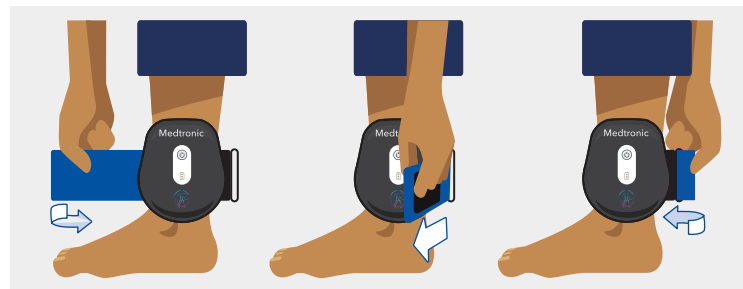

Figure 46. Securing the ankle band
- Secure the ankle band. The ankle band should be snug, but comfortable (Figure 46).